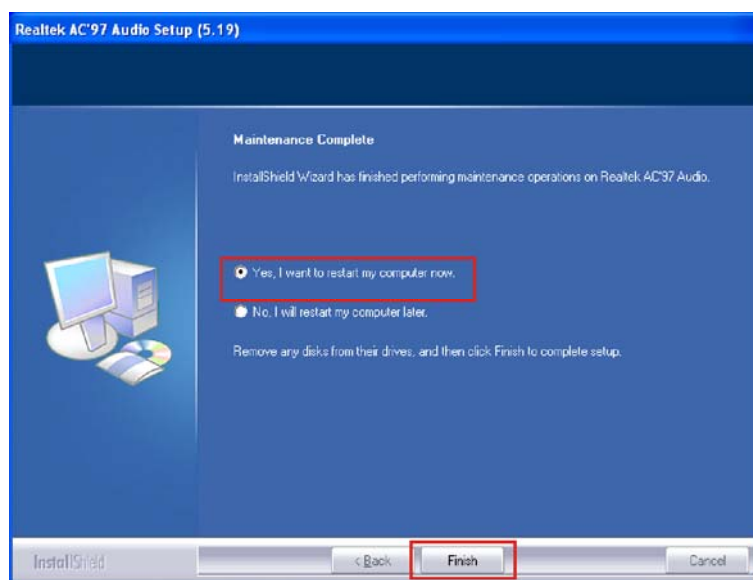

Figure 7-23: AC'97 Driver Installation Complete
Step 54: When the driver is installed, the driver installation finish screen in Figure 7-23 appears.